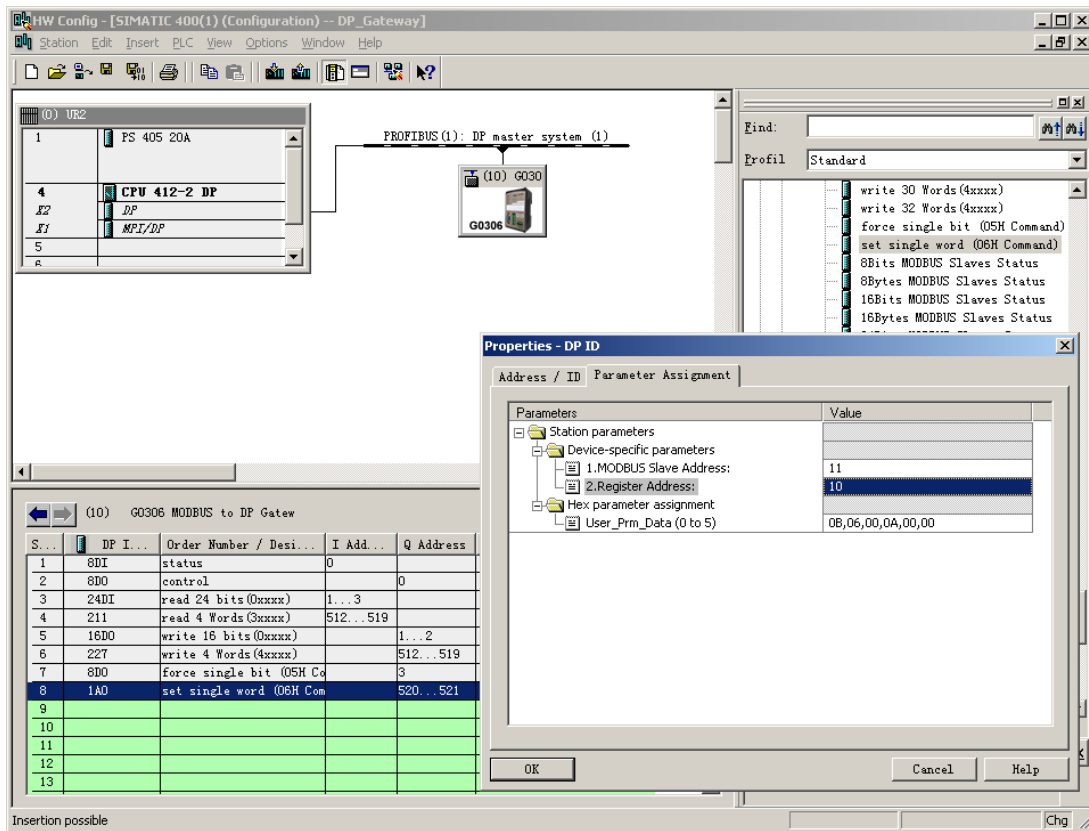

Figure 32 Configure User Parameters of “set single word (06H Command)” Module
b) Configure user parameters of “set single word (06H Command)” module, shown in Figure 32:
"1.MODBUS Slave Address:" ⇒Type MODBUS slave address 11, shown in Figure 32.
"2. Register Address:" ⇒Type register address 40011 of register 4xxxx to be written, set address as 10⇒"OK", shown in Figure 32.